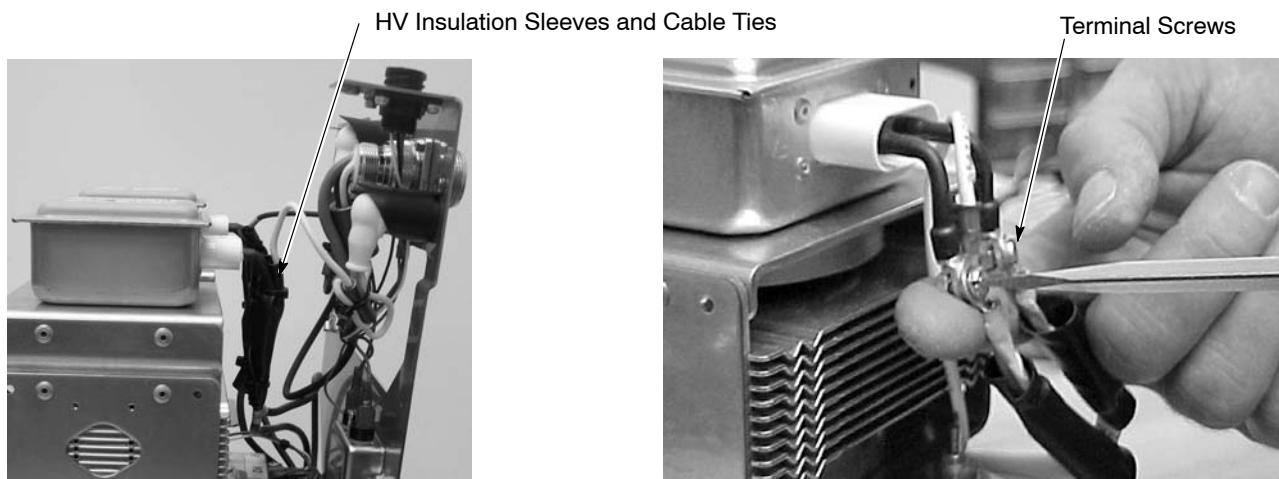

Figure 6-18 Magnetron Removal
2. See Figure 6-18. Cut the four ties securing the black HV insulation sleeves to the HV cables. Slide the sleeves down to expose the two ring-tongue terminal connections.
- See Figure 6-18. Cut the four ties securing the black HV insulation sleeves to the HV cables. Slide the sleeves down to expose the two ring-tongue terminal connections.
13. See Figure 6-18. Use the screws removed in step 3 to connect the X2 secondary cable to the magnetron **F** terminal pigtail. Connect the X1 secondary cable and the 20 AWG HV cable with ferrite to the **FA** terminal pigtail.